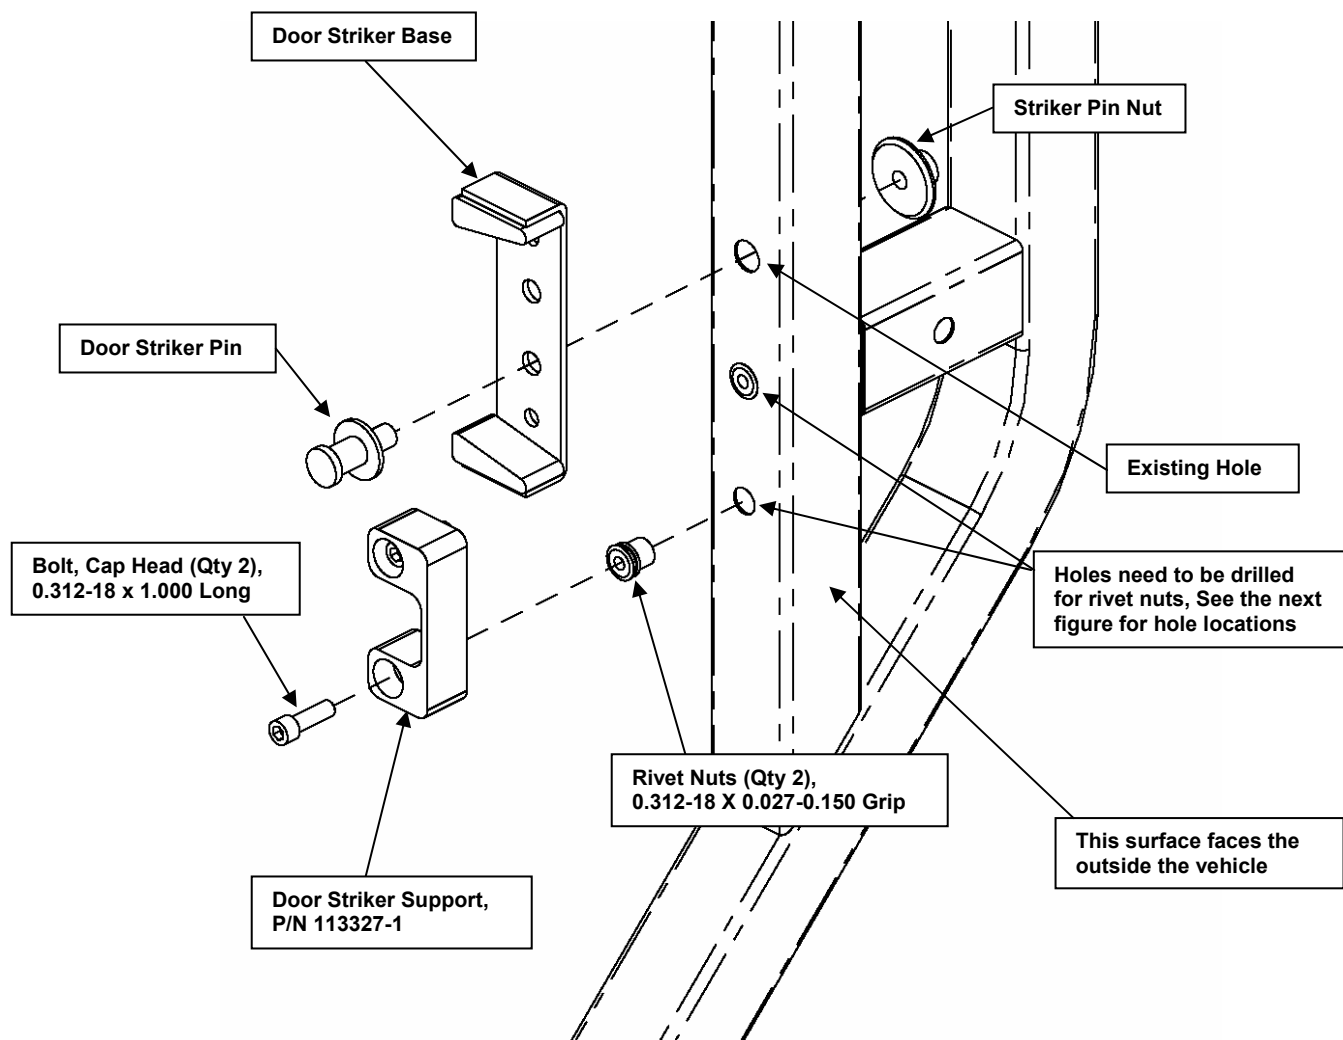

Figure 26. Door Striker and Combat Latch locations.
- q) Install the Door Striker Base and Striker Pin, as shown in Figure 26.
- v) Attach the Door Striker Support (P/N 113327-1), as shown in Figure 26, using two 0.312-18 x 1.00 Long Cap Head Bolts.